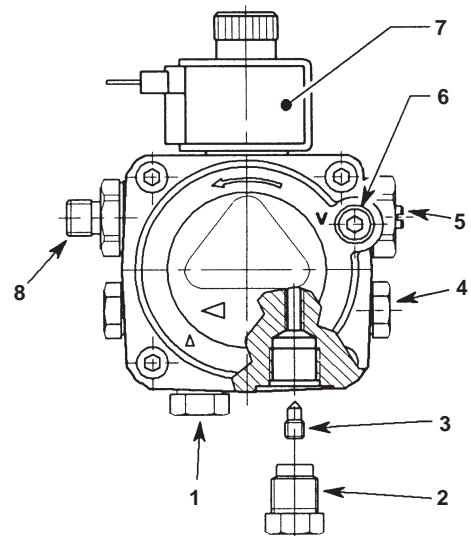

Fig. 7 - Riello RDB pump
Riello RDB burner - See Fig. 7
- 1 The fuel pump is supplied for use with a single pipe fuel supply system. For use on a two pipe system, it is necessary to fit the By-pass screw (see Fig. 7) into the tapping in the return port.